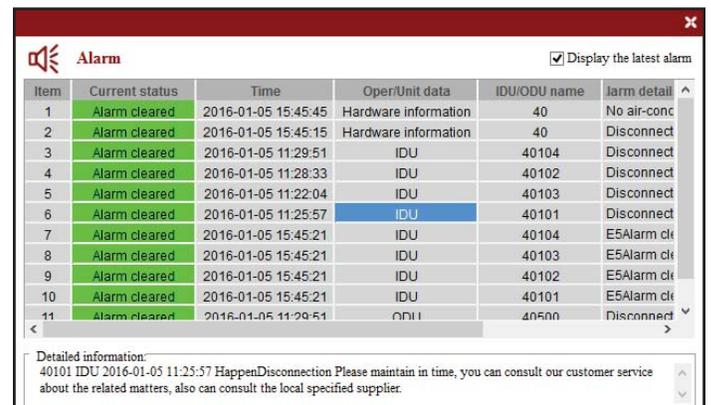

Figure 5. Alarm Notification
- **Alerts** -- Displays the connection status and alarm readings from the LVM software. Tap the Warning icon to open a popup screen listing recent alerts. See figure 5.